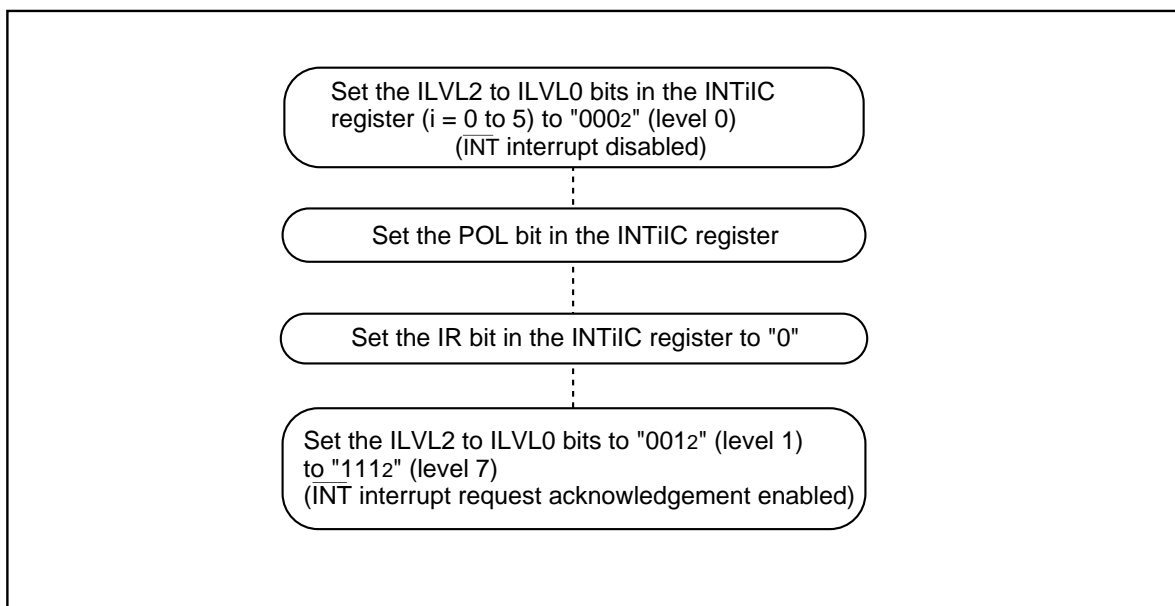

Figure 27.1 Switching Procedure for $\overline{\text{INT}}$ Interrupt
- The IR bit may change to "1" (interrupt requested) when switching the polarity of the $\overline{\text{INT}}0$ to $\overline{\text{INT}}5$ pins. Set the IR bit to "0" (no interrupt requested) after selecting the polarity. Figure 27.1 shows an example of the switching procedure for the $\overline{\text{INT}}$ interrupt.